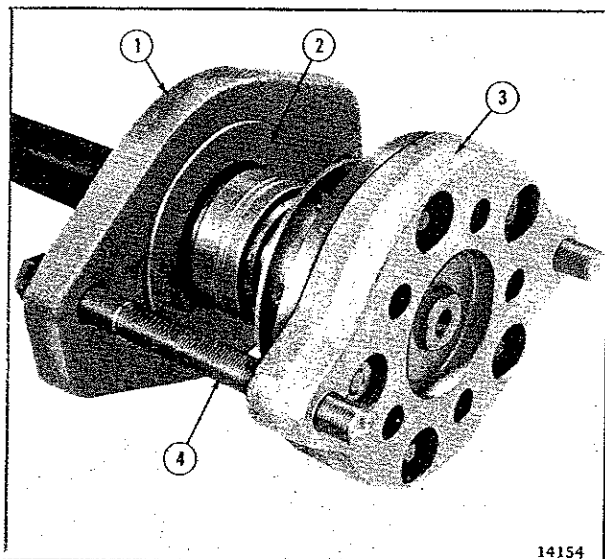

FIG. N-11—INSTALLING AXLE SHAFT BEARING
g. Using puller tool W-343, press the new axle shaft bearing and retainer ring on the axle shaft simultaneously. Tighten puller bolts alternately until the bearing and retainer ring are properly seated against the shaft shoulder. Refer to Fig. N-11 and N-12.